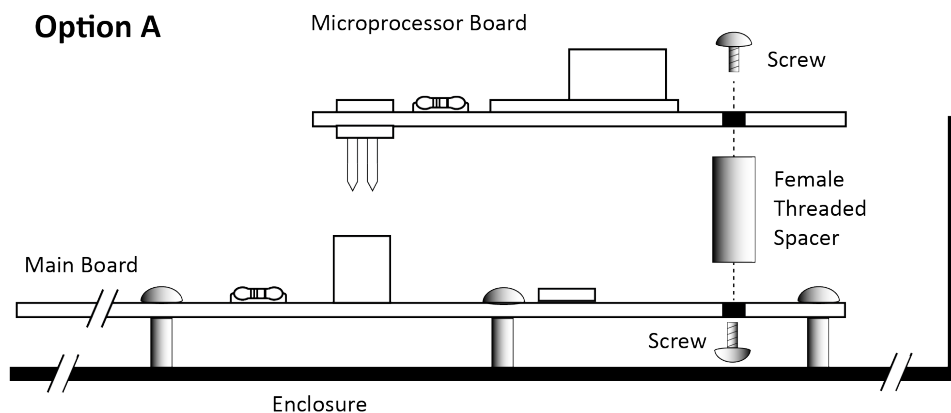

Figure 3. Option A Installation
- Attach the threaded standoff to the top of main board by routing one of the screws up through the underside of the main board and securing it to the standoff. Use Figure 3 as a guide.